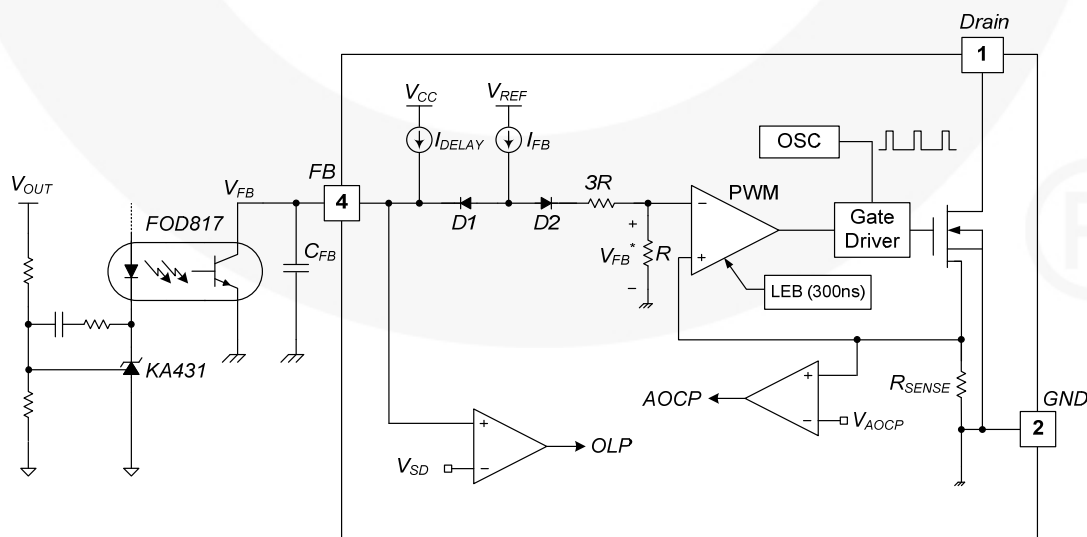

Figure 18. Pulse Width Modulation Circuit
**3. Feedback Control:** This device employs Current-Mode control, as shown in Figure 18. An opto-coupler (such as the FOD817) and shunt regulator (such as the KA431) are typically used to implement the feedback network. Comparing the feedback voltage with the voltage across the  $R_{SENSE}$  resistor makes it possible to control the switching duty cycle. When the reference pin voltage of the shunt regulator exceeds the internal reference voltage of 2.5V, the opto-coupler LED current increases, pulling down the feedback voltage and reducing drain current. This typically occurs when the input voltage is increased or the output load is decreased.
**3.1 Pulse-by-Pulse Current Limit:** Because Current-Mode control is employed, the peak current through the SenseFET is limited by the inverting input of PWM comparator ( $V_{FB}^*$ ), as shown in Figure 18. Assuming that the 90μA current source flows only through the internal resistor ( $3R + R = 27k\Omega$ ), the cathode voltage of diode D2 is about 2.4V. Since D1 is blocked when the feedback voltage ( $V_{FB}$ ) exceeds 2.4V, the maximum voltage of the cathode of D2 is clamped at this voltage. Therefore, the peak value of the current through the SenseFET is limited.